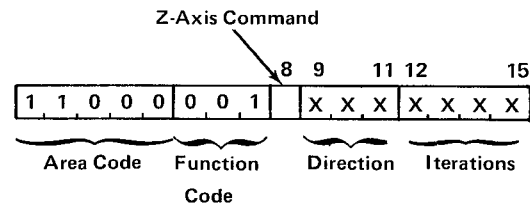

Fig. 2-3. IOCC for Write Function
Write. The command for write is zero zero one (001) in bits 5, 6, and 7 of the IOCC word. Fig. 2-3 shows the meaning of modifier bits 8 through 15 when the Write function is selected.
Bits 12 through 15 determine the number of increments of pen movement that the interface (IF-3) will execute per one write command. The number of increments of movement is equal to the binary number represented by bits 12 through 15 of the IOCC word (see Fig. 2-3). The pen will increment 1 to 15 positions in the direction dictated by bits 9, 10, and 11.